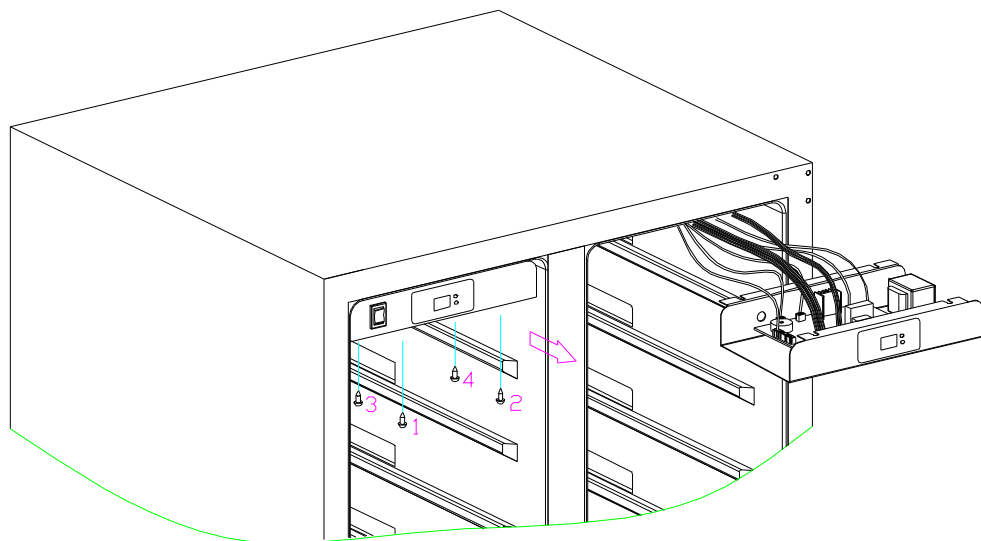
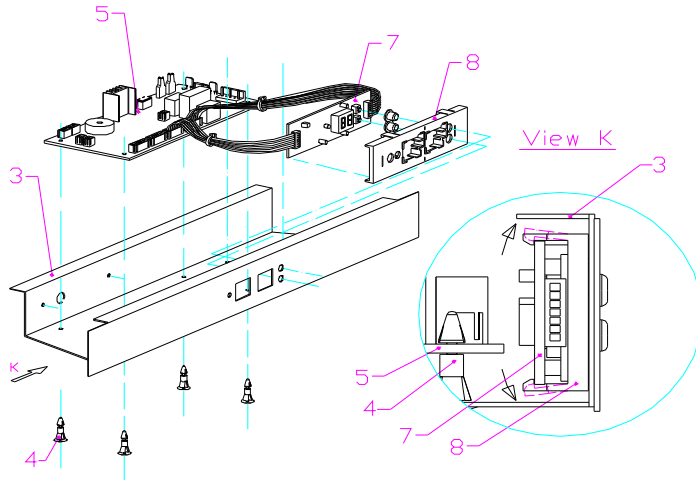
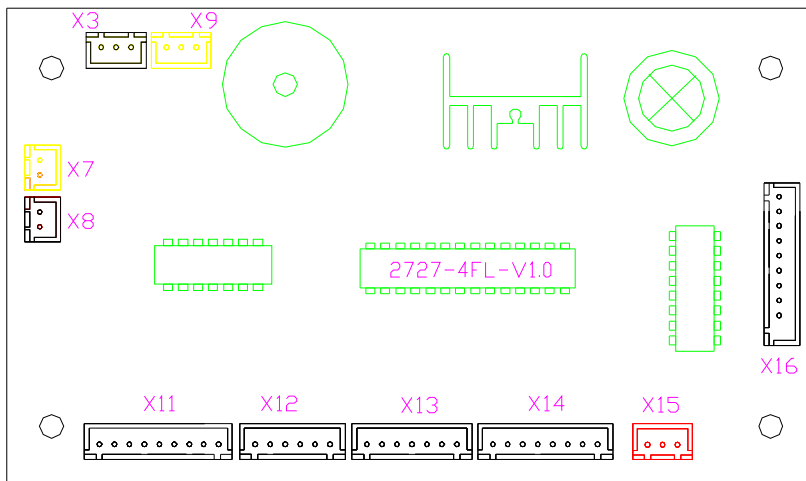

Fig. 10
Fig. 11
Fig. 12
3 >. If the above a~e point is line in the situation, and every components of the machine is normal; if there is any different, and firstly check the abnormal components and their connection wire. If the connection is tight, replace the components. If the replacement fail, it can be judged as control PCB's fault, please replace it with the same module. (Fig.10 & Fig.11)
1 >. After turning on the power, if the LED display shows the temperature is similar with the ambient temperature, it is normal, if abnormal, please remove the electrical box, (Fig.10 & Fig.11) (→9), check the sensor insert "X7" or "X8" whether reliable. If the insert is reliable, it is the sensor's fault, replace the sensor with the same module.
This fault caused by led displayer broken, just change it will be OK. (Fig.10 & Fig.11)
2 >. Screw the two bolts out from the electrical box (3, 4), half loose the two bolts(1, 2) which in the front of the box, pull the electrical box out (Fig.10)
3 >. The explode drawing of replaced electrical box is below; (Fig.11)
4 >. Unplug all the connectors, then press the head of each of the four plastic studs (4) one by one, and move up-ward the control board, remove the control board, and replace it with the new module. See. (Fig. 11)
5 >. Replace the LED display board. Unplug the four 4 display cover fasteners on display board supporter (8) as per arrowhead direction, and then remove the display board, and its two connectors from both sides, Replace the display board. See (Fig. 11 & Fig. 12)
○ The name and explanation of the main PCB board connectors(Fig. 12)
- 1>. Follow the removing methods to remove the PCB board; (Fig.10 & Fig.11)